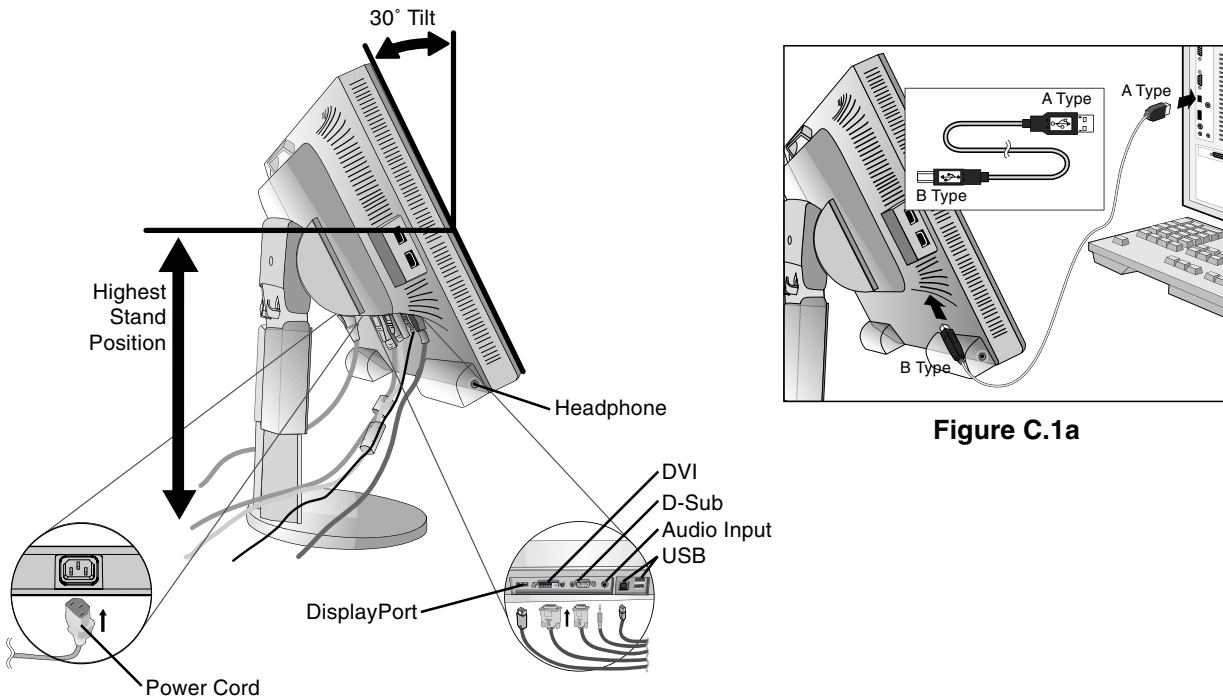

Figure C.1
3. Place hands on each side of the monitor to tilt the LCD panel 30-degree angle and lift up to the highest position (**Figure C.1**).
4. Connect all cables to the appropriate connectors (**Figure C.1**). Connect the Headphone (not included) to the appropriate connector at the left side of the monitor (**Figure C.1**). When using the USB cable, connect the B type connector to the USB upstream port on the right back side of the monitor and the A type connector to the downstream port on the computer (**Figure C.1a**). If you can use the cord from the USB device, use one of the downstream ports on the side of the monitor.